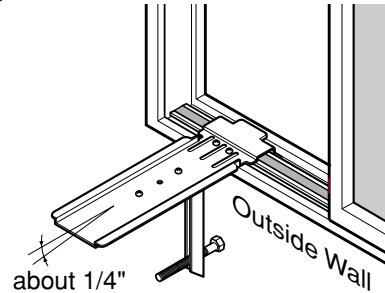

Figure 24
4. Put the Support Bracket against the outside wall and tighten the Bolts on top of the Bracket. Adjust the Leveling Bolt so that the air conditioner will be installed with a very slight tilt (about 1/4") downward toward the outside for proper drainage. Tighten the nut. (See Figure 24)